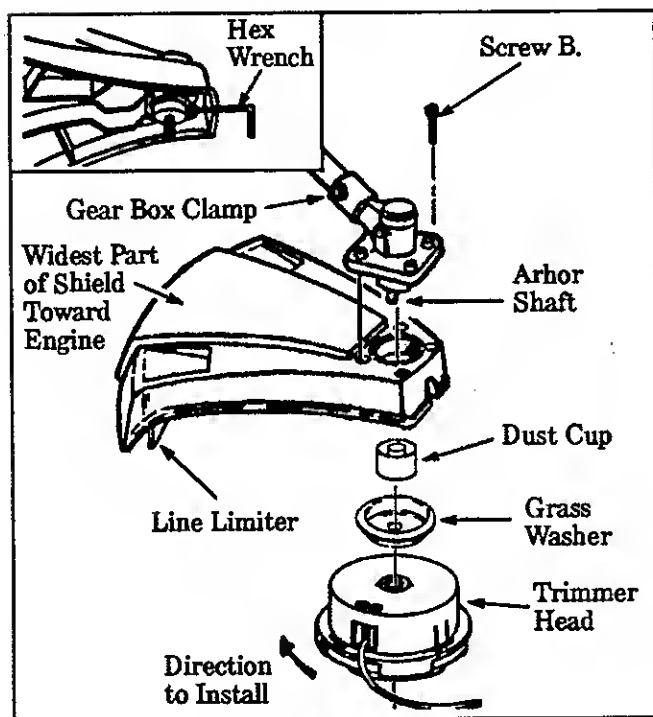

Figure 5
Failure to install the shield in the position shown in Figure 5 can result in serious injury to the operator. The length of the shield must be aligned with the length of the drive shaft housing. Direct the widest part of the shield toward the engine.
- Place the Shield under the Gear Box and align screw holes. Figure 5.
- e. Install the Dust Cup and Grass Washer over the Arbor shaft. Make sure the Grass Washer is against and curved over the dust cup. Figure 5.
- f. Start threading the Trimmer Head onto the Arbor Shaft as shown in Figure 5.
- h. Insert the small hex wrench (provided) into the aligned holes to keep the Arbor Shaft from turning. Figure 5 (inset).